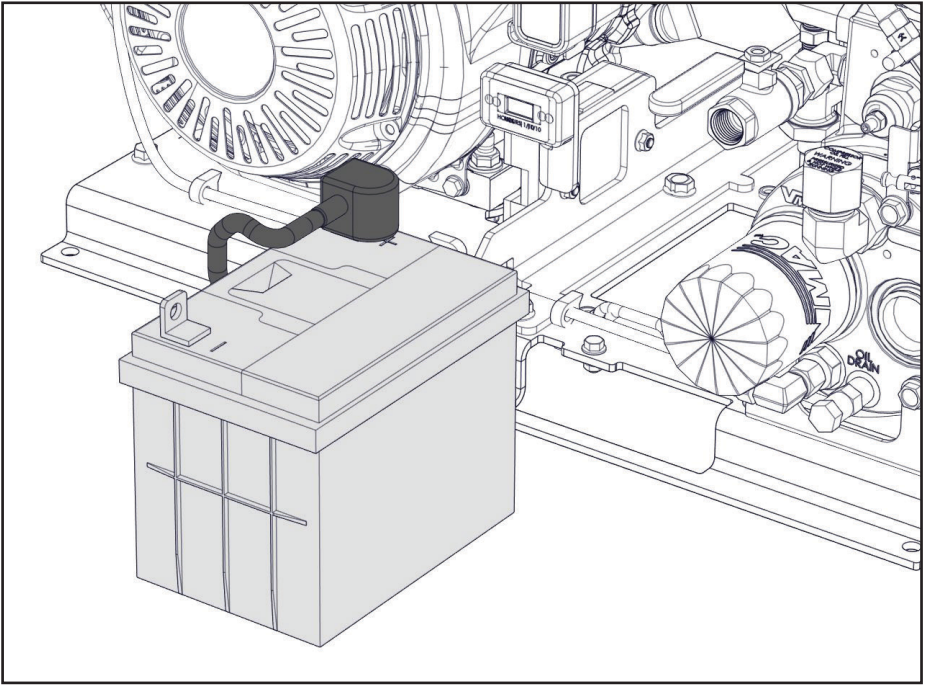

Figure 70 — Battery removal
- ☐ Pull the battery out of the front of the unit, once it is clear, disconnect the positive battery terminal (Figure 70).